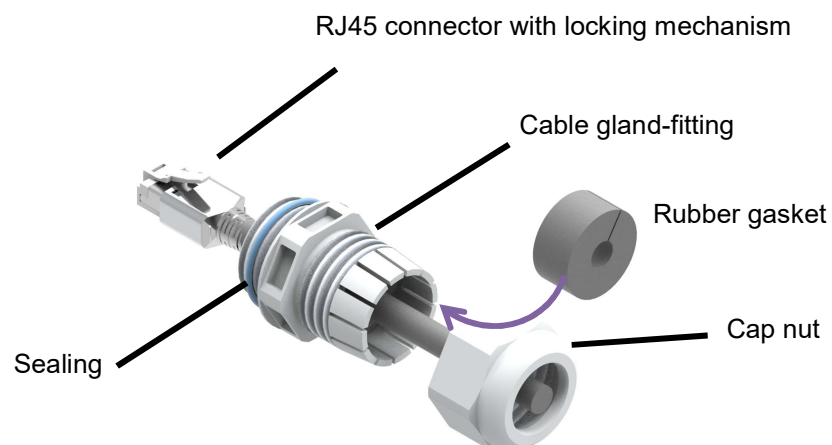

Figure 12 Cable Connection Mounting Details
5. Push the cable carefully through the cap nut and cable gland fitting according Figure 12. Ensure that the locking mechanism remains intact.
6. Attach the appropriate rubber gasket size A or size B depending on the cable diameter according Figure 12 so that the profiled side of the gasket is oriented towards the fitting !